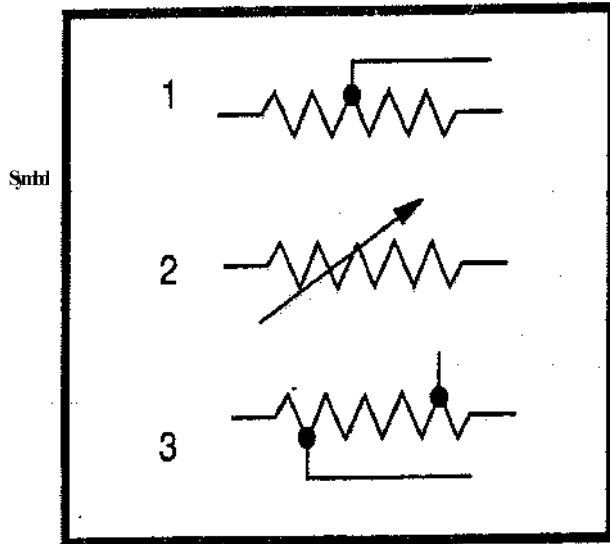

Fig. 9.4. Electrical
17. (Refer to figure 9.4) Which symbol represents a variable resistor ?